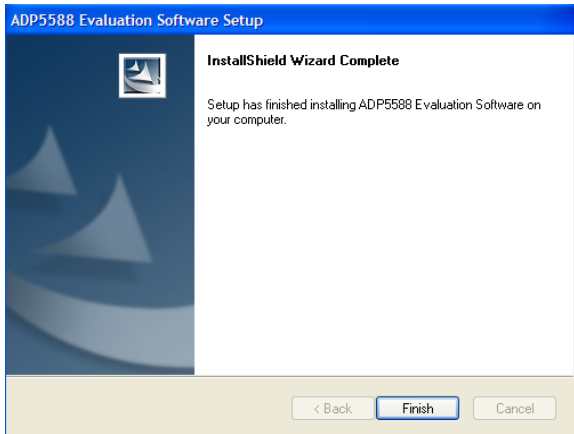

Figure 9. InstallShield Wizard Complete
6. When the program installation has been completed, click **Finish** to complete the installation (see Figure 9).